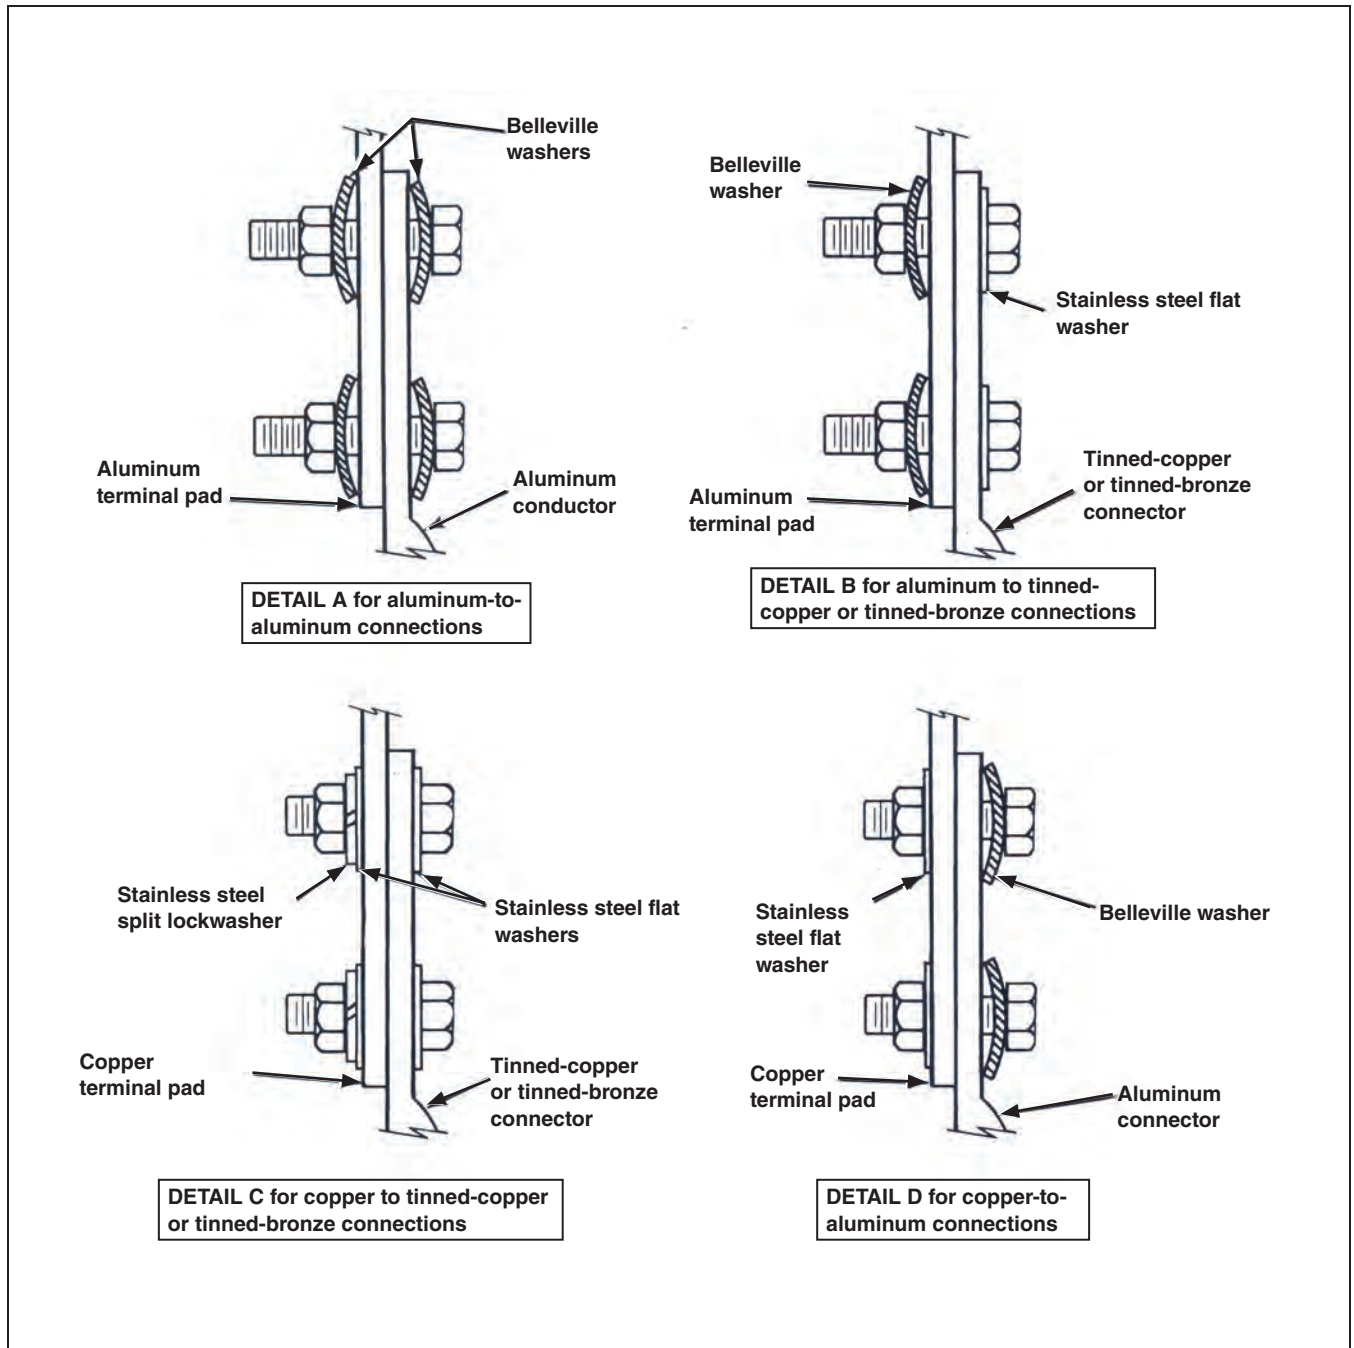

Figure 14. Terminal pad connections.
**STEP 12.** Make the connections as described in the following paragraphs (refer also to Figure 14 on page 23):
- (a) **For aluminum terminal pads to aluminum connectors:** Use ½-inch aluminum or galvanized steel hardware with two Belleville washers (not furnished), as shown in Detail A of Figure 14 on page 23. Torque aluminum bolts to the manufacturer's specifications. Torque steel bolts to 50 foot-pounds or, in the absence of a torque wrench, tighten each bolt until the Belleville washers are flat, and then loosen one-half turn. Do not use lockwashers with Belleville washers.
- (b) **For aluminum terminal pads to tinned-copper or tinned-bronze connectors (untinned-copper or untinned-bronze connectors are not recommended):** Use ½-inch galvanized steel hardware, with one Belleville spring washer (not furnished) against the aluminum terminal pad and one stainless steel flat washer against the tinned connector, as shown in Detail B of Figure 14 on page 23. Torque the bolt to 50 foot-pounds or, in the absence of a torque wrench, tighten the bolt until the Belleville washer is flat, and then loosen one-half turn. Do not use lockwashers with Belleville washers.
- (c) **For copper terminal pads to tinned-copper or tinned-bronze connectors:** Use ½-inch Everdur or stainless steel hardware, with one stainless steel washer against each terminal and one split lockwasher under the nut as shown in Detail C of Figure 14 on page 23. Torque the bolts to 35 foot-pounds or, in the absence of a torque wrench, tighten each bolt until the split lockwasher is flat.
- (d) **For copper terminal pads to aluminum connectors:** Use ½-inch galvanized steel hardware with one Belleville spring washer (not furnished) against the aluminum connector and one stainless steel washer against the copper terminal pad as shown in Detail D of Figure 14 on page 23. If the Belleville washer extends beyond the edge of the aluminum connector, the positions of the Belleville washer and flat washer should be reversed, i.e., place the Belleville washer against the copper terminal pad and the flat washer against the aluminum connector. Torque the bolt to 50 foot-pounds or, in the absence of a torque wrench, tighten each bolt until the Belleville washer is flat, and then loosen one-half turn. Do not use lock-washers with Belleville washers.